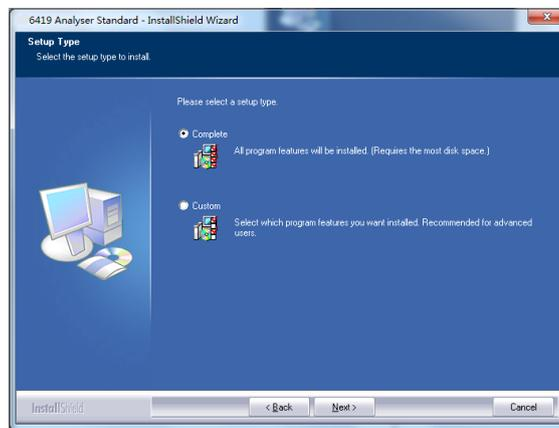

Figure A-4 Select Installation Type dialog box
Step 4 The Select Installation Type dialog box is displayed, as shown in Figure A-4. If you click Full Installation and Next, the software installs all application functions in the default system path. If you click Custom Installation, you need to specify the software installation path and functions. Click Next. The Select Installation Path dialog box is displayed. Click Change to specify a new path for saving the software installation files. Then, click Next. The Select Software Function dialog box is displayed. Select the function to be installed and click Next.